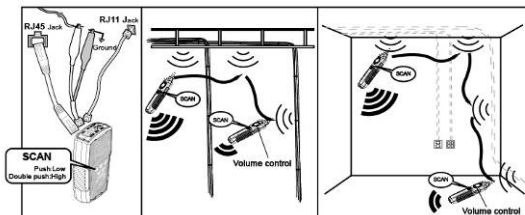

Figure 3 Locating cables
To locate cables, do the following steps (Figure 3) :
1. Connect the black alligator clip of the Transmitter to the ground and then connect the red clip to a jack or punch-down block as shown in Figure 3.
2. As the Figure 3 shown, when push , the red indicator of
- As the figure 3 shown, put the receiver function switch at "**scan**", the red indicator in the middle will light up, and long press "" on receiver to operate cable tracing function. The tracing sound will be output from speaker. When put on the earphones, there will be no sound from speaker, but from the earphones.